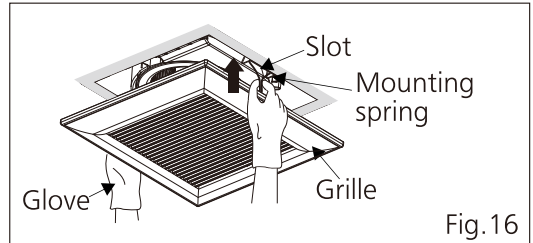

Fig.16
5.For model FV-0810VSS1 please reinstall grille. (Fig.16)